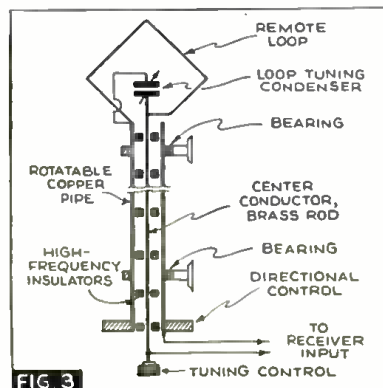

FIG 3
- (4) **Remote-Controlled Loop (See Fig. 3)**